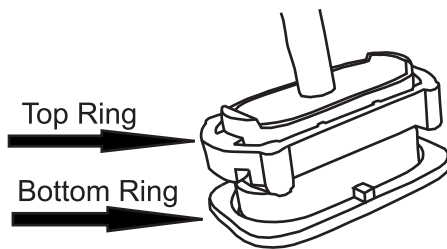

Fig. 2
- 2) The sensor module is fitted to the outer cover with a top ring and bottom ring as shown in Fig. 2